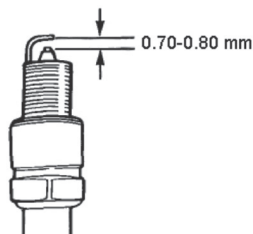

Fig. 16
7.3.4 Check the spark plug clearance to see if it is between 0.7-0.8mm, adjust it if necessary. (Fig. 16)